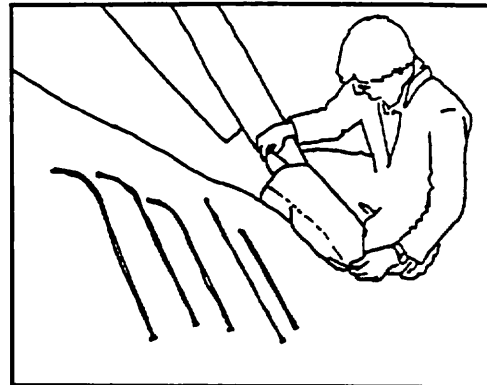

Figure 27
18) Remove the wingtip protector bags, and remove the plastic wingtip fairings from inside the bags. (Figure 27) Install the last three curved battens on each side.